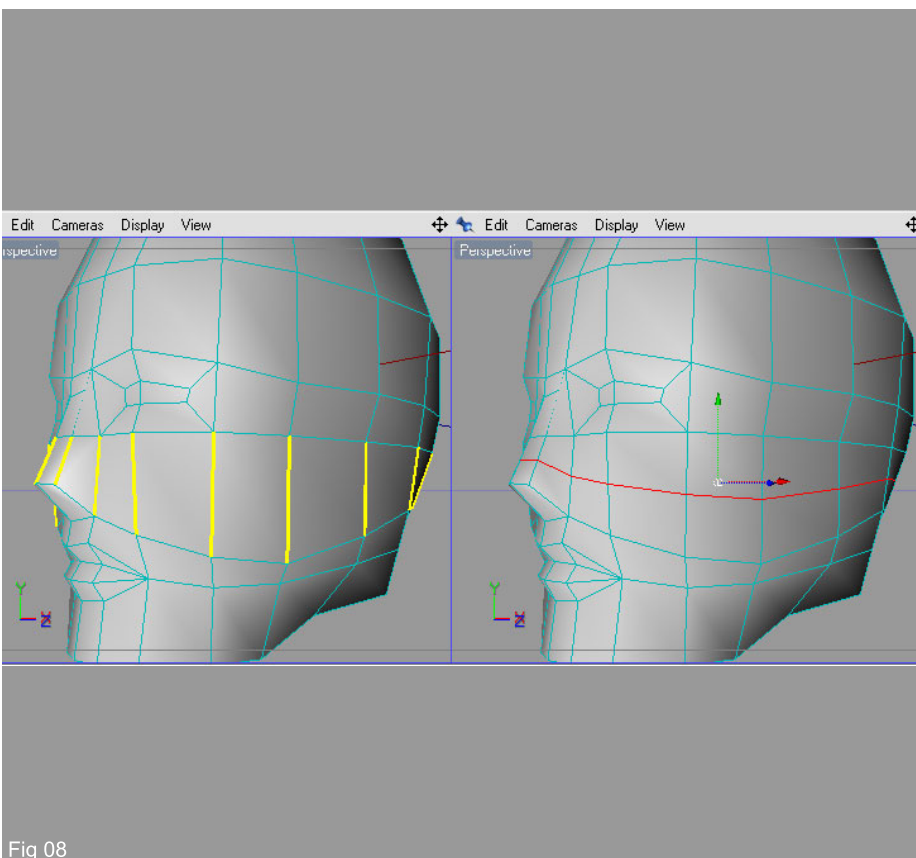

Fig 08
8. Add now a cut as shown in Fig 08 using the "Ring Selection" tool. This will refine the cheek bone and the nose shape.